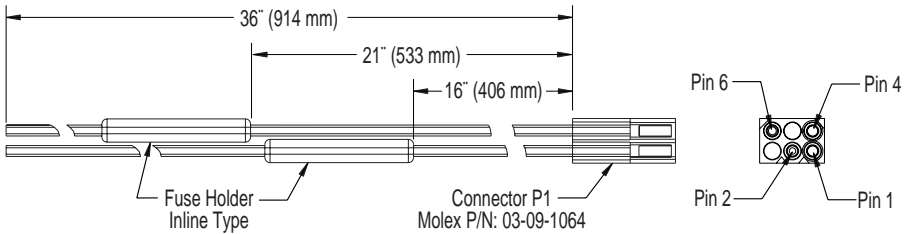

Figure 5 Cable Wiring Diagram
- Referring to Table 1 and Figure 5, connect the red (A+) wire (with the inline fuse) of the supplied cable to either an unswitched terminal on the vehicle's fuse box or directly to the positive (+) terminal of the vehicle's battery.